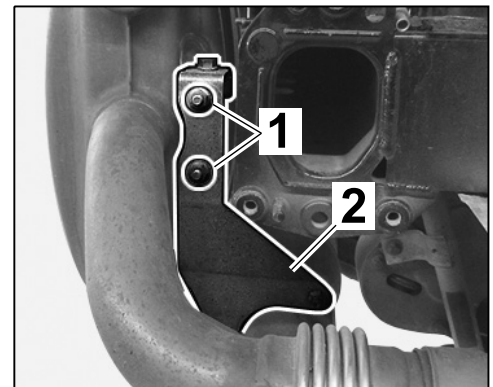

Figure 44
- 5.9.1 Position strut ⇒ *Figure 44 -2-* on the rear holder and three-hole flange.
- 5.9.2 Screw on two new M8 collar nuts ⇒ *Figure 44 -1-* on the rear holder.